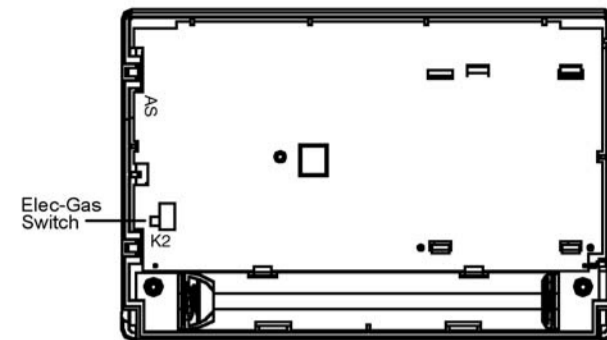

Figure 1. Electric/Gas Switch (Fan Option)
This thermostat is configured from the factory to operate a heat/cool, fossil fuel (gas, oil, etc.), forced air system. It is configured correctly for any system that DOES NOT require the thermostat to energize the fan on a call for heat. If your system is an electric heat or heat-pump system that requires the thermostat to turn on the fan on a call for heat, locate the ELEC/GAS switch on the back of the thermostat (see Figure 1) and switch it to the ELEC position. This will allow the thermostat to energize the fan immediately on a call for heat. If you are unsure if the heating/cooling system requires the thermostat to control the fan, contact a qualified heating and air conditioning service person. When the thermostat is configured for heat pump, the thermostat will always power the circulator fan on a call for heat in the Heat mode. The ELEC/GAS switch must be set to match the type of auxiliary heat your system uses for proper operation in the Emergency mode.
5. Fasten base loosely to wall, as shown in Figure 1, using two mounting screws. Place a level against bottom of base, adjust until level, and then tighten screws. (Leveling is for appearance only and will not affect thermostat operation.) If you are using existing mounting holes, or if holes drilled are too large and do not allow you to tighten base snugly, use plastic screw anchors to secure sub-base.